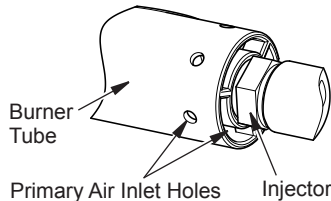

Figure 33 - Burner and Injector Holder
2. Inspect burner, pilot and primary air inlet holes on injector for dust and dirt (see Figure 33).